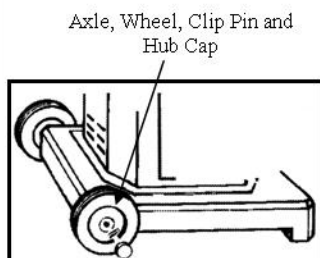

Fig. 3
C. On portable bases, attach the wheels by slipping the axle through the base, slide the wheels on and install the axle clips. Finish by snapping the hubcaps on. Flat base permanent models must be Lag Bolted to the deck or concrete for stability. (Fig. 3)
C. On portable bases, attach the wheels by slipping the axle through the base, slide the wheels on and install the axle clips. Finish by snapping the hubcaps on before standing upright. Flat base permanent models must be Lag Bolted to the deck or concrete for stability. (Fig. 3 Page 8)